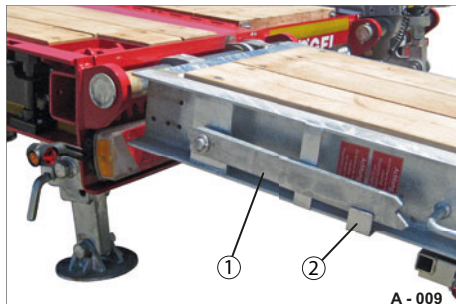

Fig. 7 Counter support secured
- Turn the counter supports (Fig. 7/1) into the locking plate (Fig. 7/2).